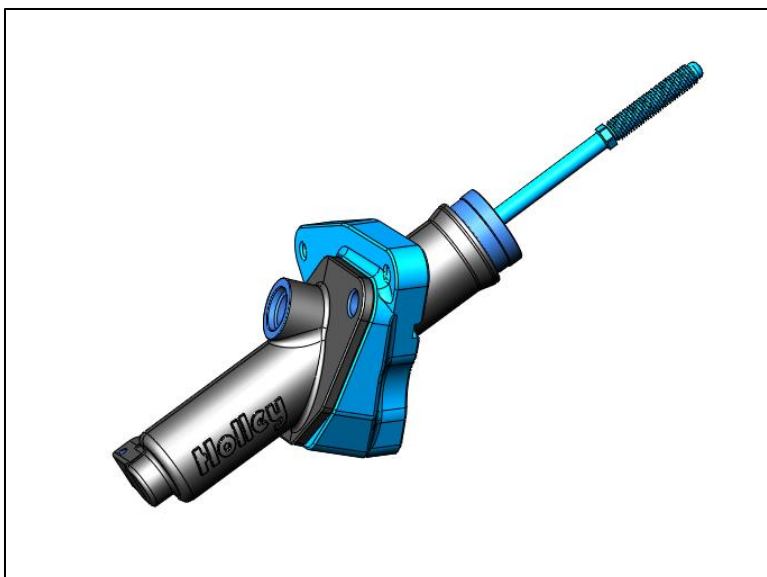

Figure 2: Clutch Master Cylinder/Mount Assembly
15. Apply RTV to the outside of the firewall where the master cylinder will mount, as seen in Figure 2.